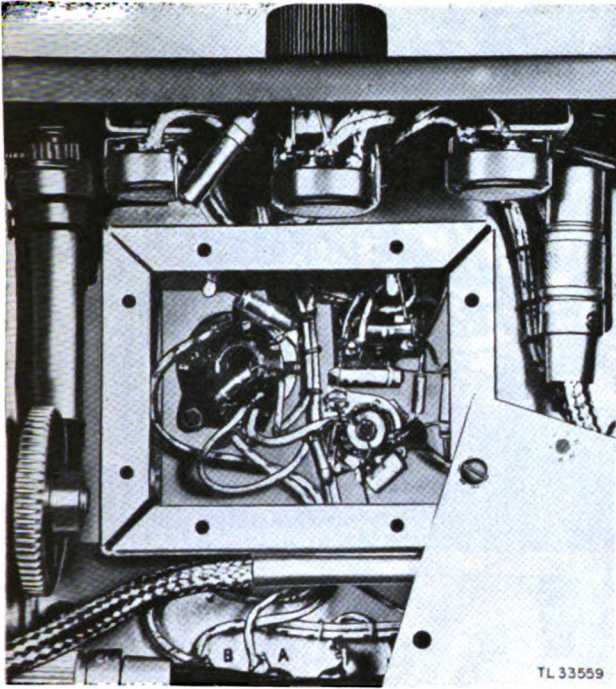

Figure 197. Radio Receiver and Transmitter BC-1267-A, power-measurement circuit, shield cover removed.
**d. POWER-MEASUREMENT CIRCUIT.** To gain access to the wiring of the power-measurement circuit tubes, remove the eight screws which hold the cover of the shield box in place (see fig. 197). To remove the shield box, unsolder the wire at terminal 1 of tube